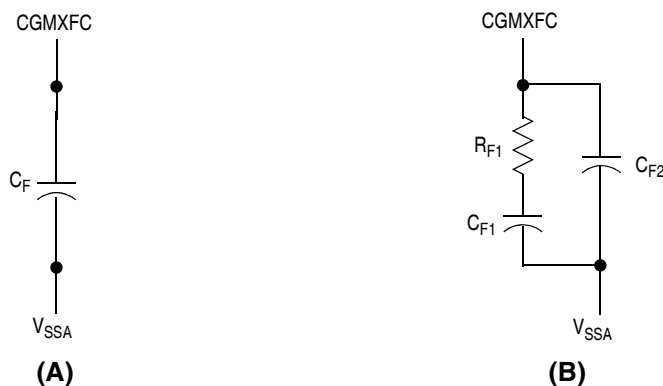

Figure 4-9. PLL Filter
Figure 4-9 shows two types of filter circuits. In low-cost applications, where stability and reaction time of the PLL are not critical, the three component filter network shown in Figure 4-9 (B) can be replaced by a single capacitor, C_F , as shown in shown in Figure 4-9 (A). Refer to Table 4-5 for recommended filter components at various reference frequencies. For reference frequencies between the values listed in the table, extrapolate to the nearest common capacitor value. In general, a slightly larger capacitor provides more stability at the expense of increased lock time.